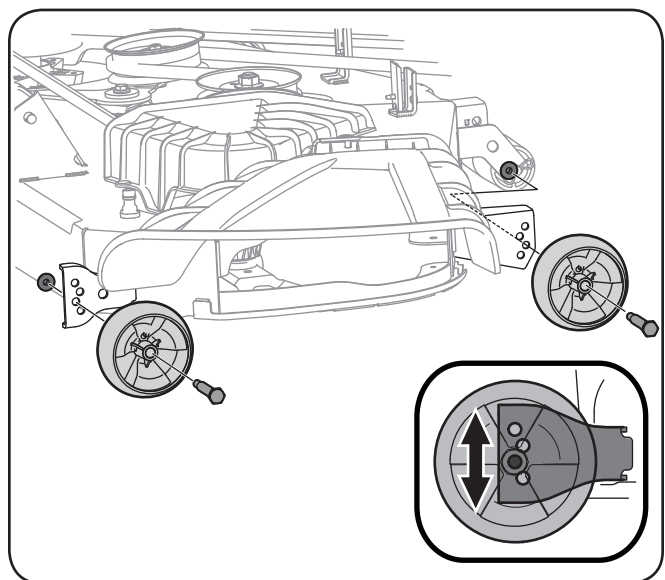

Figure 3-10
- b. Remove the front and rear deck wheels by removing the flange lock nuts and shoulder bolts that secure them to the deck. See Figure 3-10.